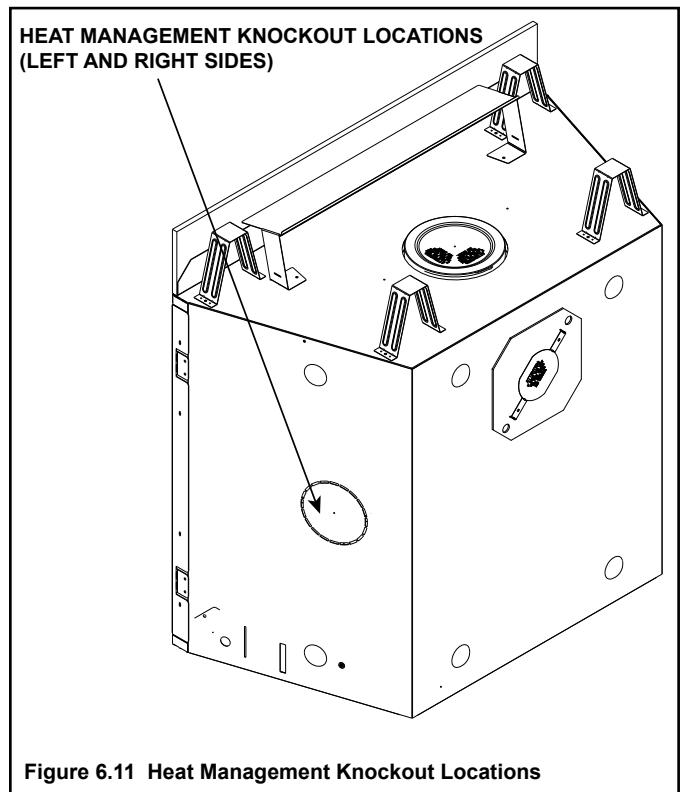

Figure 6.11 Heat Management Knockout Locations
- Locate the heat management ports on the left and right sides of the appliance. Either one or two Heat-Zone®-Gas Kits may be installed. Remove the knock-out from the fireplace and discard it. See Figure 6.11.